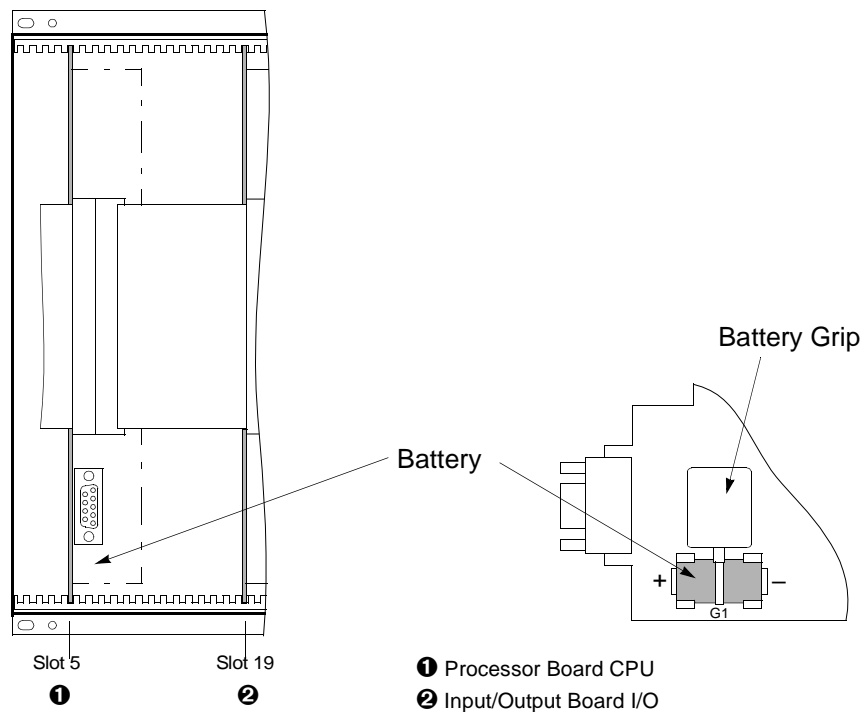

Figure 9-1 Front View without Front Panel – Position of Buffer Battery (simplified and reduced)
- ☐ The battery is located on the bottom-front side of the CPU (❶) board. See Figure 9-1.
- ☐ Remove the old battery from the snap-on connector using the plastic battery grip shown in Figure 9-1.
- ☐ Observing the polarity and firmly insert the new battery into the snap-on connector shown in Figure 9-1.
- ☐ Connect the ribbon-cable between the CPU (❶) board and the front panel. Be especially careful not to bend any of the connector pins! Do not use any force! Be sure that the plug connectors latch.
- ☐ Carefully install the CPU board in the case. The position for the board is shown in Figure 9-1.